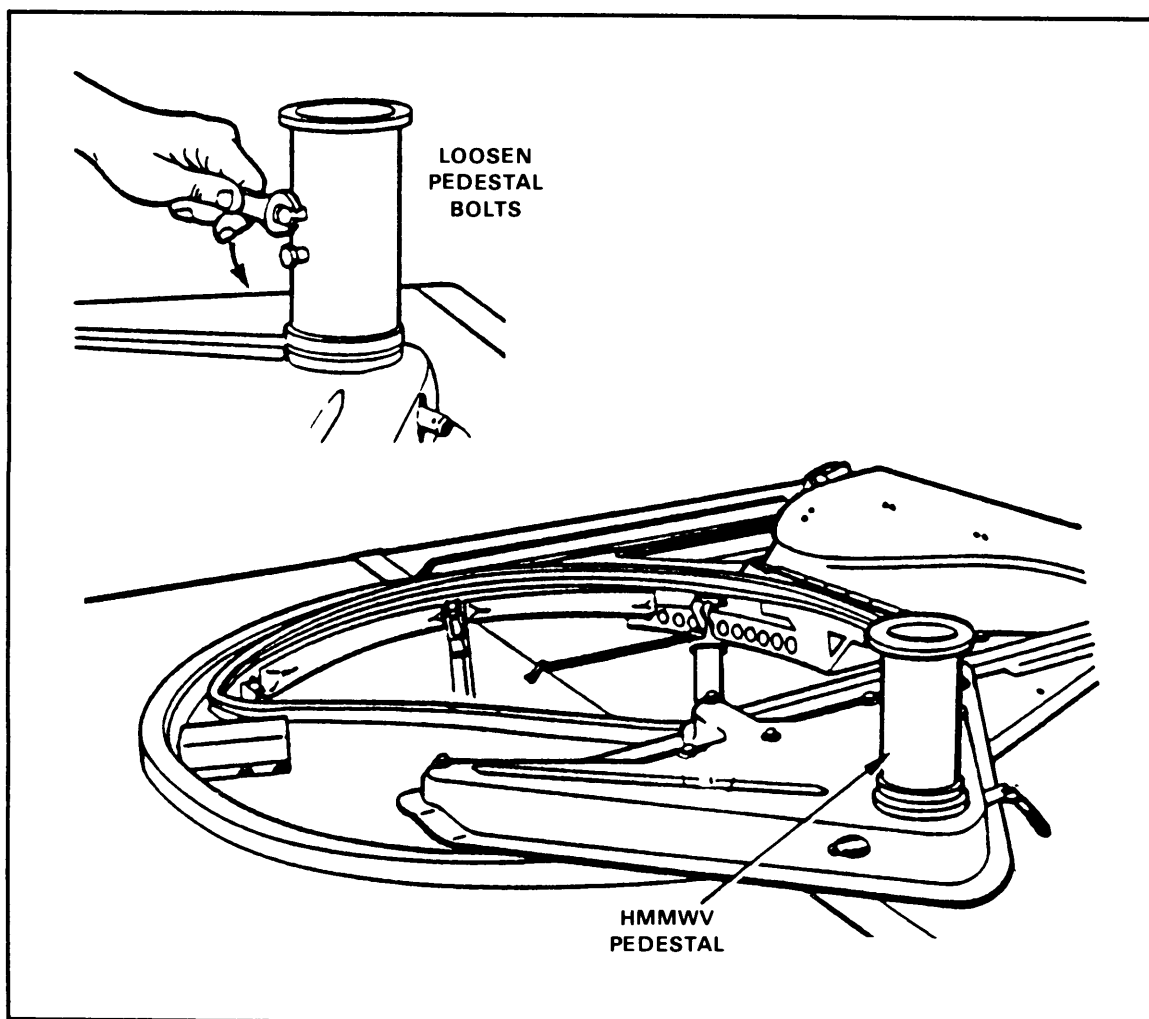

Figure 3-27. HMMWV pedestal.
(2) HMMWV weapon platform (Figure 3-27). To mount the MK 19 on the HMMWV weapon platform, loosen the locking bolts on the side of the HMMWV PEDESTAL WITH A 9/16" wrench. Insert the pintle adapter into the pedestal and tighten the bolts with the wrench. Pull up on the pintle adapter to ensure it is installed securely. Attach the train and elevating assembly to the HMMWV pedestal. Mount the MK 19 and attach the bracket mounting assembly. Attach the empty case catch bag.
(3) M66 ring mount (2 1/2- to 5-ton cargo trucks). To mount the MK 19 on the M66 ring mount, insert the pintle adapter into the M36A2 ring mount with M66 ring receptacle. Install the gun cradle and mount the MK 19. Attach the bracket mounting assembly and the empty case catch bag.
(4) Commander's cupola (M113 APC). To mount the MK 19 on the commander's cupola, install the pintle adapter and the gun cradle. Mount the MK 19 and attach the bracket mounting assembly and the empty case catch bag.